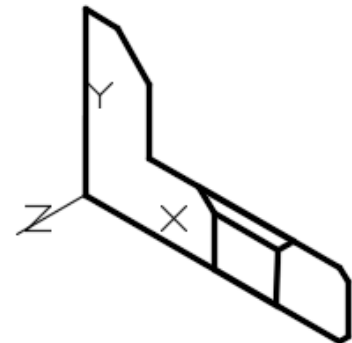

Figure Step 12
Step 12 Explode the region to convert it to lines. On layer: Hatch, add the lines to complete the cross section view as shown the figure. (Figure Step 12)